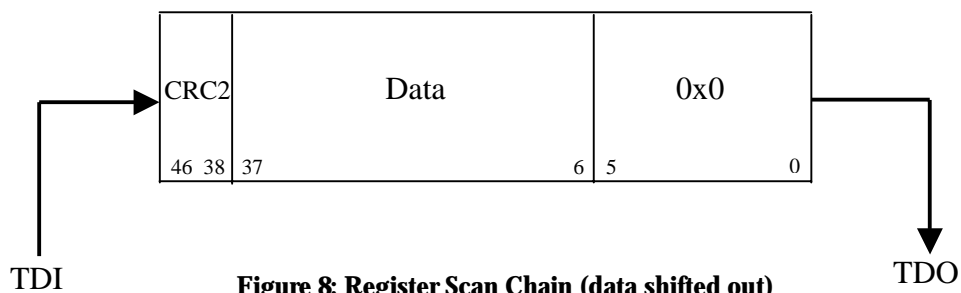

Figure 8: Register Scan Chain (data shifted out)
- ✓ CRC2 is shifted out (Figure 8: Register Scan Chain (data shifted out)). The host calculates it from the address, the R/W that are shifted in, and data that is shifted out (data read from a register) when a read operation is in progress, or from delayed CRC1 when a write operation is in progress.